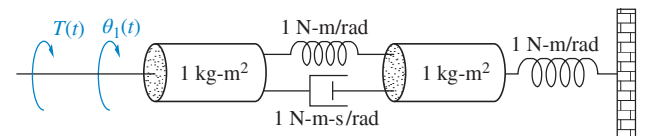

FIGURE P2.19
34. Find the transfer function,  $\frac{\theta_1(s)}{T(s)}$ , for the system shown in Figure P2.19.